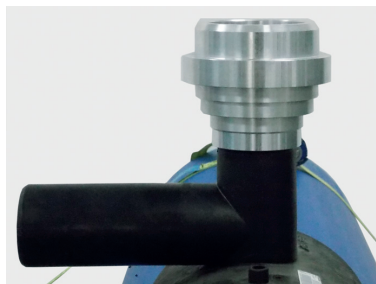

Fig. 1
- Place the matching adapter **(5)** (as depicted on the example DAA-TL and SA-TL in Figs. 1 and 2) on the FRIALEN TL saddle fitting.